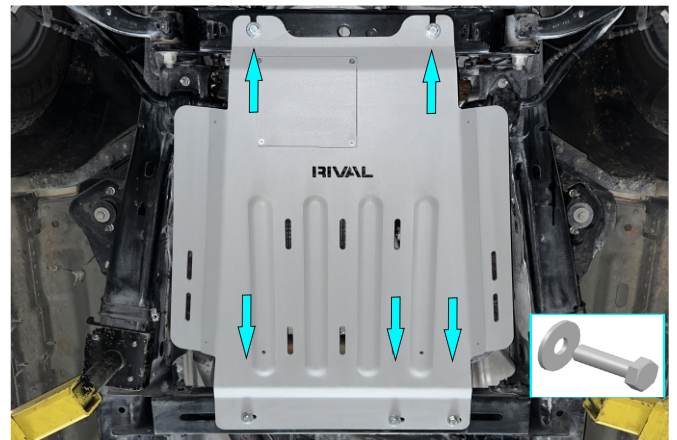

Fig. 4
4.1 If the RIVAL engine skid plate is installed: loosen the rear engine skid plate bolts, slide the transmission skid plate over it and secure the rear of the transmission skid plate using M10x35 bolts and M10 flat washers (item B, C) as shown in fig.4.
4.2 If not, slide the front of the skid plate (item 1) over hardware installed in step 2 and secure the rear of the skid plate using M10x35 bolts and M10 flat washers (item B, C) as shown in fig.4.